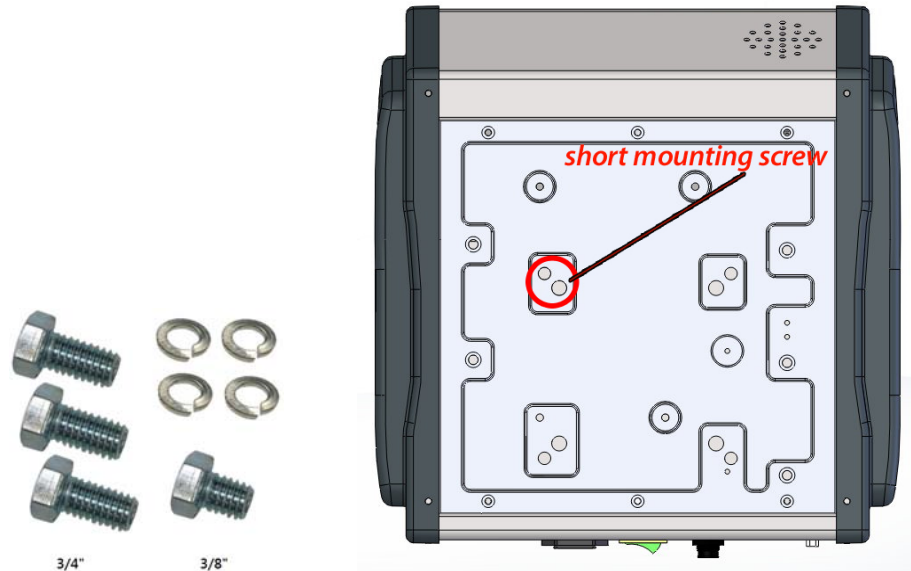

Figure 5.1— Bottom View of the MTD 4000 Showing Placement of Mounting Holes
1. Attach the MTD 4000 to the table using the accompanying hardware supplied with the unit. (See Figure 5.1) Please note, lower right hand mounting hole requires short mounting screw. An example with step by step instructions is shown below: